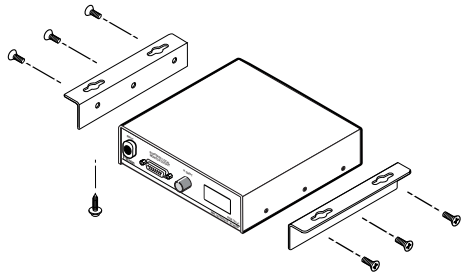

Figure 2-7 — Attaching the under desk brackets
1. Attach the mounting brackets to the interface using six machine screws supplied with the mounting kit (see figure 2-7).